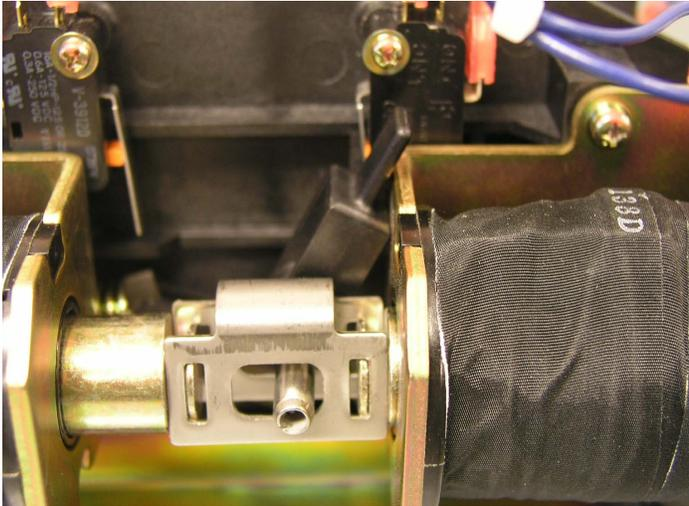

Figure 18. ATS Manual Operating Handle in Use Shown Connected to Source 2.
Step 3: Locate the manual lever between the solenoids (see Figure 18).